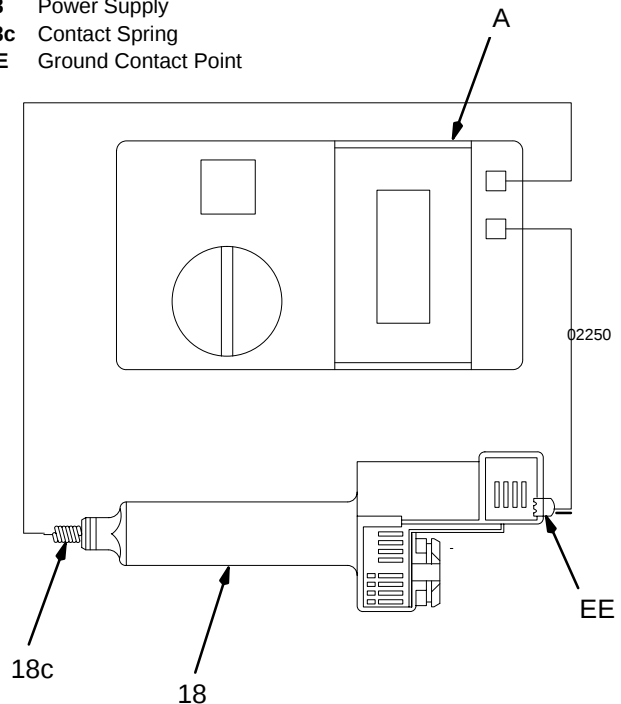

Fig 14
Measure the resistance from the power supply's ground contact point (EE) to the contact spring (18c) on the other end of the power supply. See Fig 14.